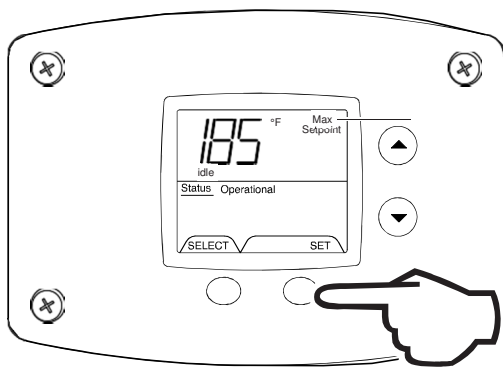

Fig. 43
2. Press 'Set' button to enter setting mode. 'Max Setpoint' will flash to indicate setting mode (Fig. 43).